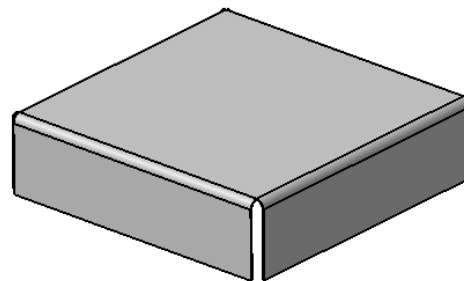

*Figure 15-148 Edge selected for creating the flange*
- Select the edge on which the flange has to be created, as shown in Figure 15-148.